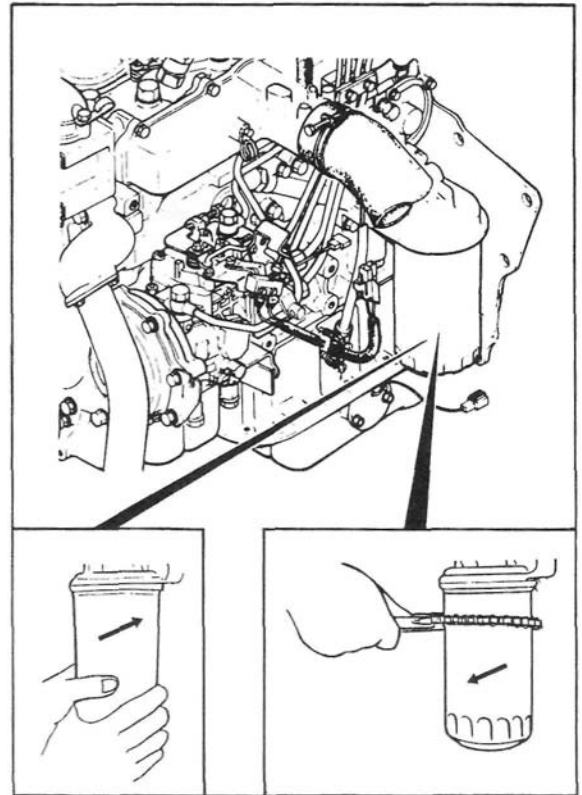

Fig. 6
2. Remove the filter canister (see Fig. 6) with a strap wrench or similar tool and discard the canister.